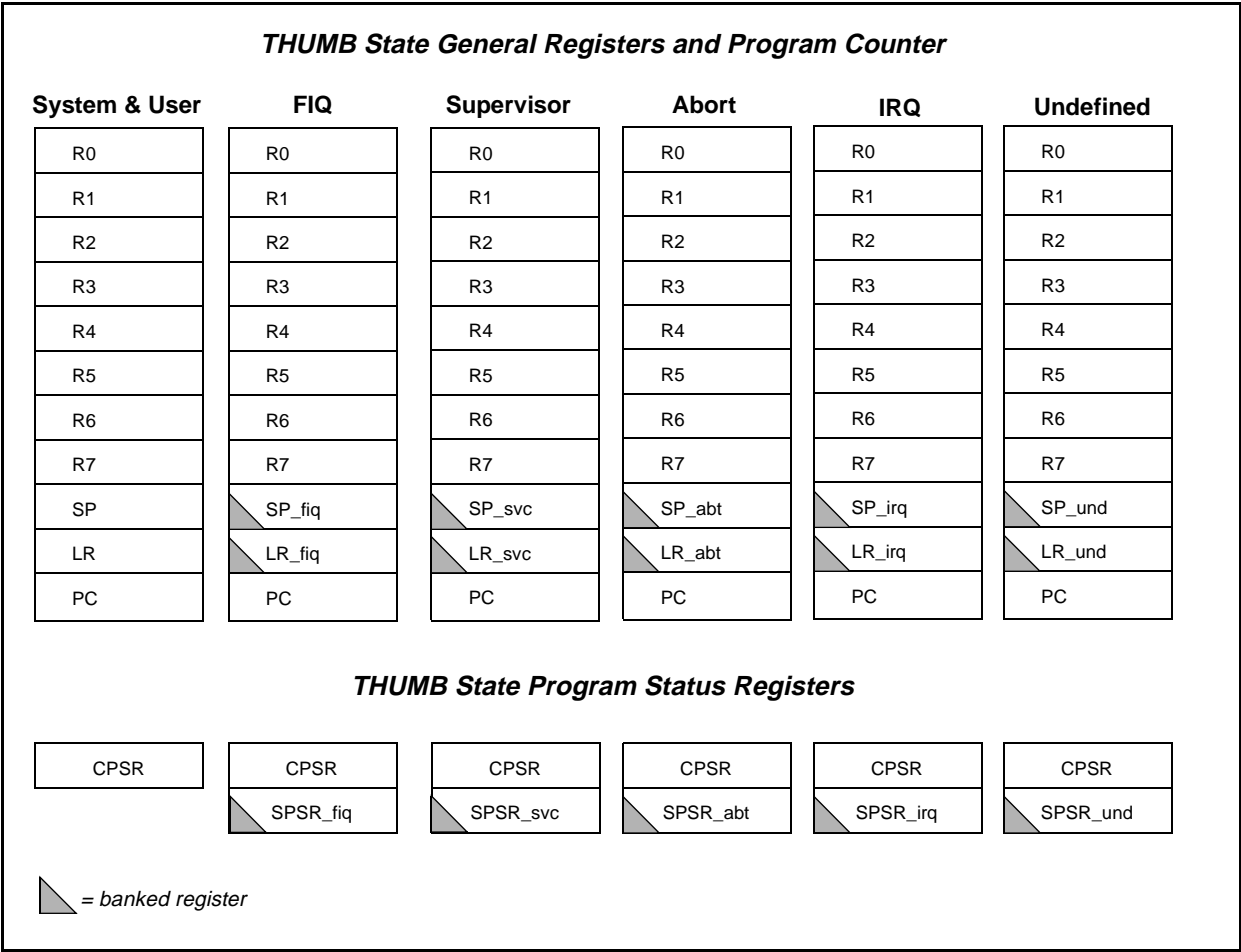

Figure 3-4: Register organization in THUMB state
The THUMB state register set is a subset of the ARM state set. The programmer has direct access to eight general registers, R0–R7, as well as the Program Counter (PC), a stack pointer register (SP), a link register (LR), and the CPSR. There are banked Stack Pointers, Link Registers and Saved Process Status Registers (SPSRs) for each privileged mode. This is shown in **Figure 3-4: Register organization in THUMB state** on page 3-10.